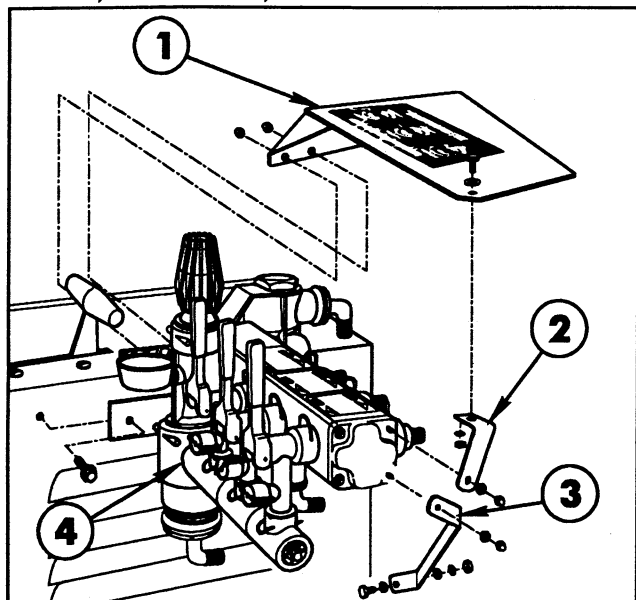

FIG. 3
1. Attach Control Valve/Mounting Bracket Assembly to left side of Seat Box using two (2) 1/4" x 5/8" hex washer hd machine screws. See FIG 3.
2. Remove top two (2) acorn nuts from right end of Control Valve. Attach Splash Shield to the end of Control Valve using two (2) previously removed acorn nuts. See FIG. 3.
3. Remove upper rear acorn nut from left end of Control Valve. Attach Shield Brace and secure with flat washer and previously removed acorn nut. Mount Shield Brace to Shield with 5/16" hex hd cap screw, flat washer, lock washer, and hex nut. See FIG 3.
4. Remove lower rear acorn nut from left end of Control Valve. Attach Valve Brace and secure with flat washer and previously removed acorn nut. Attach other end of Valve Brace to middle slot in rear of Seat Box with 5/16" hex hd cap screw, flat washer, lock washer, and hex nut. See FIG 3.